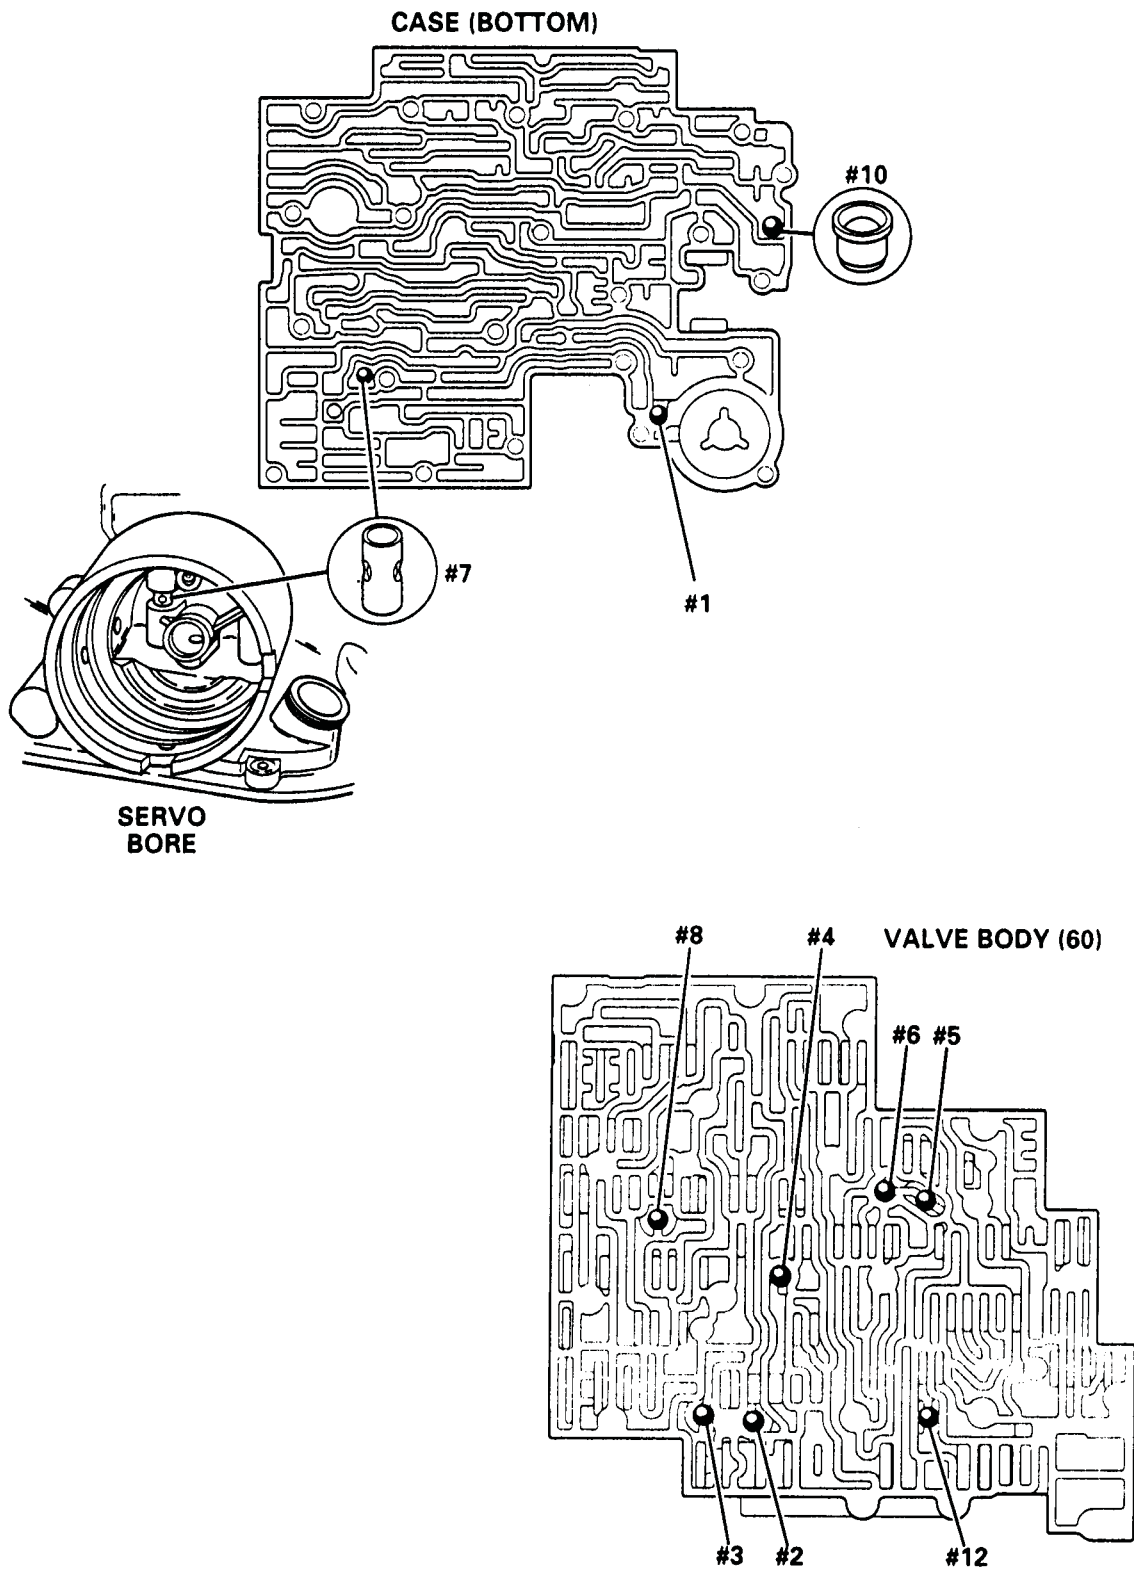

Figure 154
2. Install one checkball into the proper pocket, as shown in Figure 154.